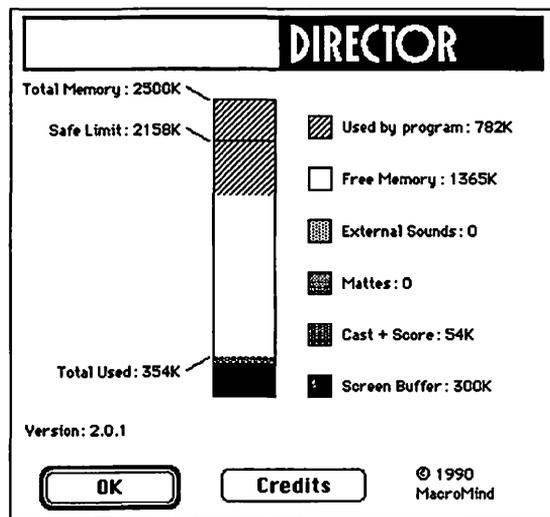

FIGURE 5-10 *The About MM Director Window reveals how RAM is used by the current animation.*
- Select **ABOUT MM DIRECTOR** from the **Apple** menu to see how RAM is allocated for the current animation (Figure 5-10). You can